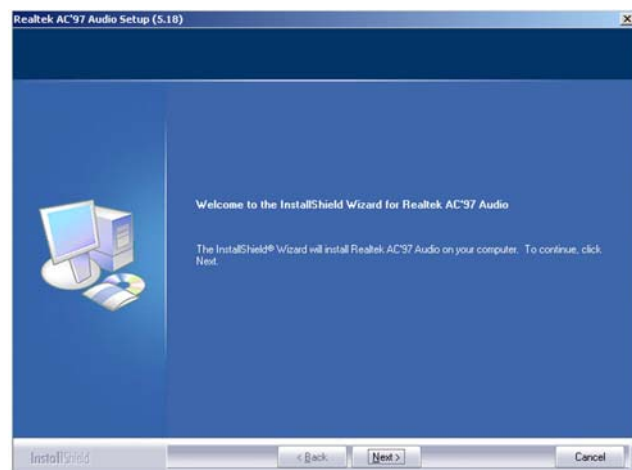
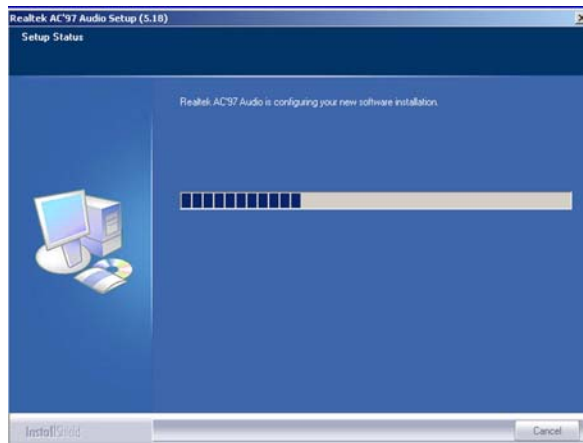

Figure 7-29: AC`97 Audio Driver Welcome Screen
Figure 7-30: AC`97 Audio Driver Software Configuration
Step 6: After the install shield is prepared, the welcome screen shown in **Figure 7-29** appears. To continue the installation process, click the “**NEXT**” button. The install shield starts to configure the new software as shown in **Figure 7-30**.